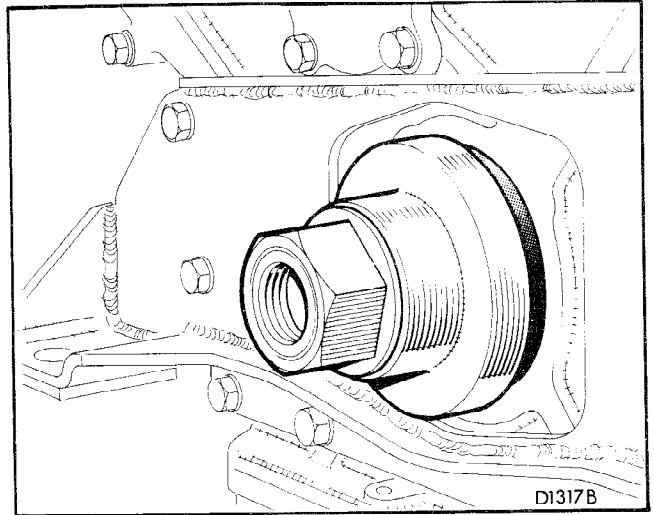

Fig. 2
- b. Use tool 18G 1111 to fit the oil seal (refer to Fig. 2).